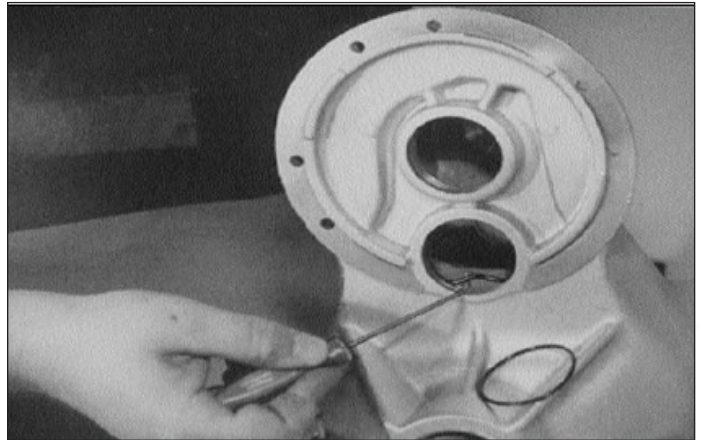

Figure 6-48. O-rings
14. Remove O-rings from outer input bearing bore and both intermediate bores (Figure 6-48).
5. Install outer snap ring (16) at input shaft bore (Figure 6-48).
6. After O-rings (10) are installed on shaft (9) and housing (1), install intermediate shaft and gear assembly (9) through bottom opening in housing.